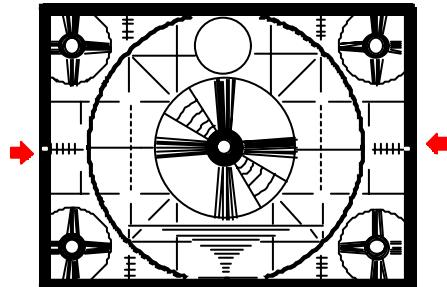

Fig.1-1 PAL MONO-SCOPE
2. Use the VOLUME + or - key on the remote controller to adjust and equalize both the right and left horizontal scales. (Fig. 1-1)